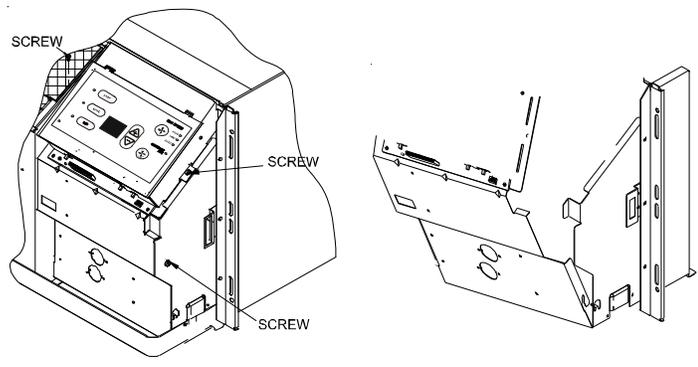

Figure 10
1. To gain access inside the control panel, remove the two mounting screws, one on each side of control board cover. Lift the cover up to gain access to the ribbon connector. Unplug ribbon connector from control board and remove cover completely. Remove the side screw holding the panel in position, and tilt control panel forward, being careful not to pinch any wires (Figure 10).